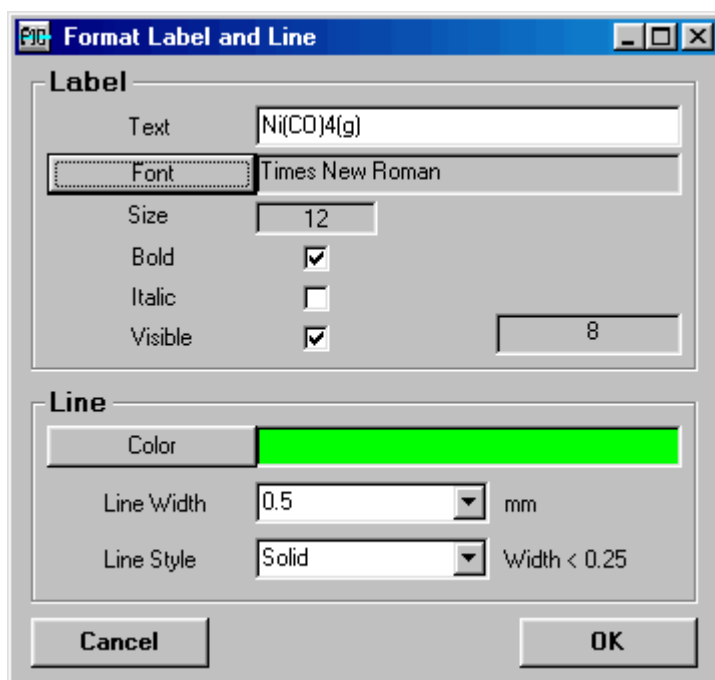

Fig. 13. Changing label and line specifications.
- The **line width** of curves, species label font, etc. may be changed by double clicking the species labels or selecting the label with mouse and selecting **Format Label** from the menu. You cannot do this by double clicking the line. The label and curve editing window is shown in Fig. 13. Note that other line styles than solid are available only for line widths smaller than 0.3 mm.